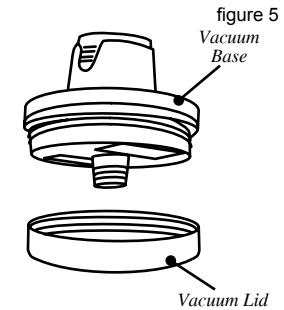

figure 5
5. Replace the Vacuum Base Lid onto the Vacuum Base. Twist the Vacuum Base Lid on snugly, do not overtighten (figure 5).